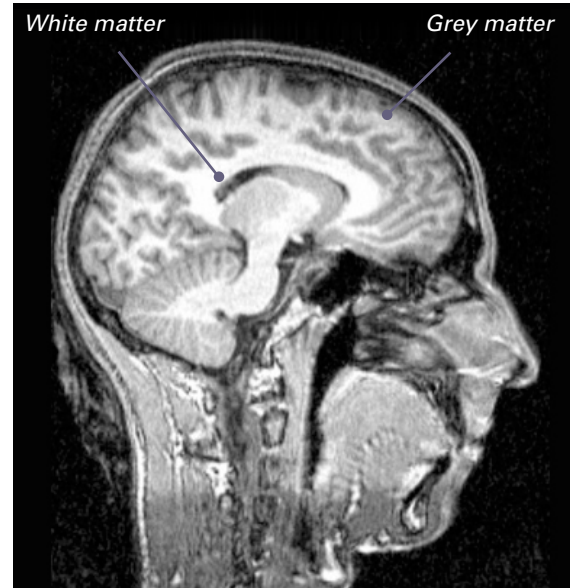

Figure 2 A structural MRI scan of the author's brain showing white and grey matter
Within the brain a single neuron can connect up to thousands of other neurons, forming a vast, complex network of dendrites, axons and axon terminals. As can be seen in Figure 2, this network can be classified as two different types of matter; grey matter, containing the nucleus, dendrites and axon terminals (i.e. the connections); and white matter, containing the axons and myelin (i.e. the wires).
Different parts of the brain contain different concentrations of water (H₂O). MRI scanners can detect the signal given off by the hydrogen (H) atoms; the signal differs slightly depending on the concentration of water in a given brain region. These signals are then used to produce an image of brain structure (Figure 2 opposite).